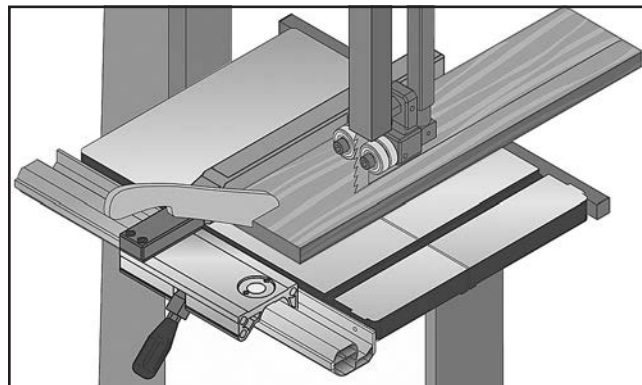

Figure 52. Example of a ripping operation.
3. After all safety precautions have been met, turn bandsaw **ON** and wait for it to come to full speed. Slowly feed workpiece into blade until blade is completely through workpiece. **Figure 52** shows an example of a ripping operation.